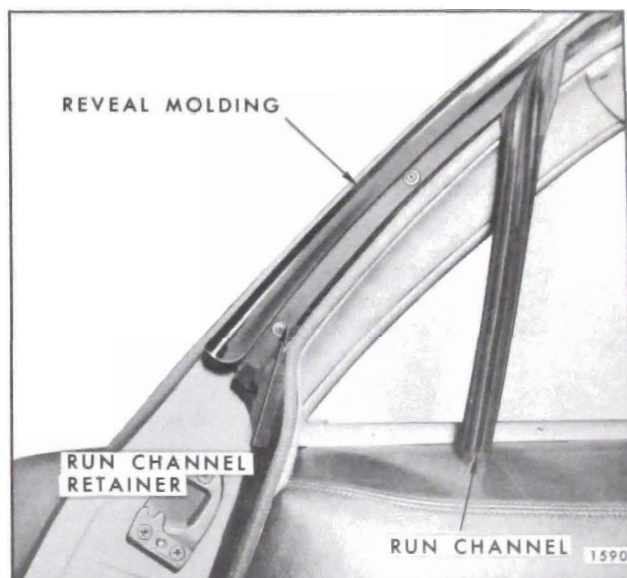

Fig. 9-25—Tail Gate Upper Glass Run Channel Retention
2. Once run channel has been removed, the retainer attaching screws are exposed. (See Fig. 9-25). The retainer can be adjusted by loosening attaching screws, shifting retainer to desired position and tightening screws. If retainer is removed, seal same with medium bodied sealer prior to installation.